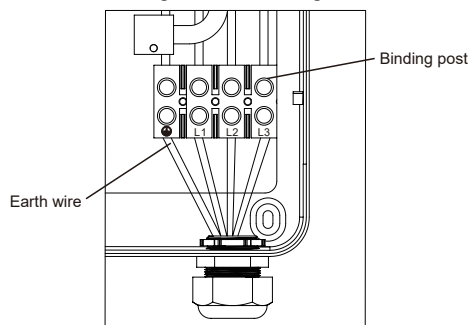

Figure 6
- 4.3. Water heater line connection: open the water heater surface shell, successively connect the fire wire 1, fire wire 2, fire wire 3 end to the wiring holes of the water heater terminal code: L1, L2, L3, and then connect the ground wire to the ground wire wiring hole of the terminal column (refer to Figure 6).